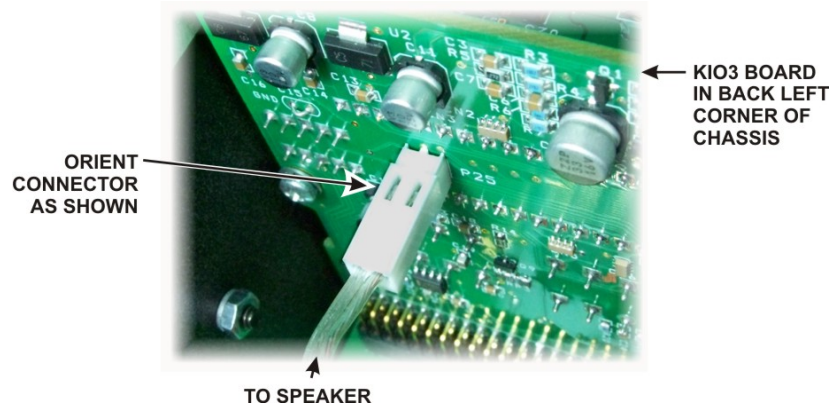

Figure 4. Connecting Speaker Wire.
- Connect headphones or loudspeaker to the K3. You can use an external speaker or prop up the top cover behind the K3 and plug it into the KIO3 board (see Figure 4).
- Replace the top cover, placing the rear tab under the top edge of the rear cover and routing the speaker cable under the stiffener bar. Plug the speaker wire into the KIO3 board at the left rear of the K3 as shown in Figure 4.